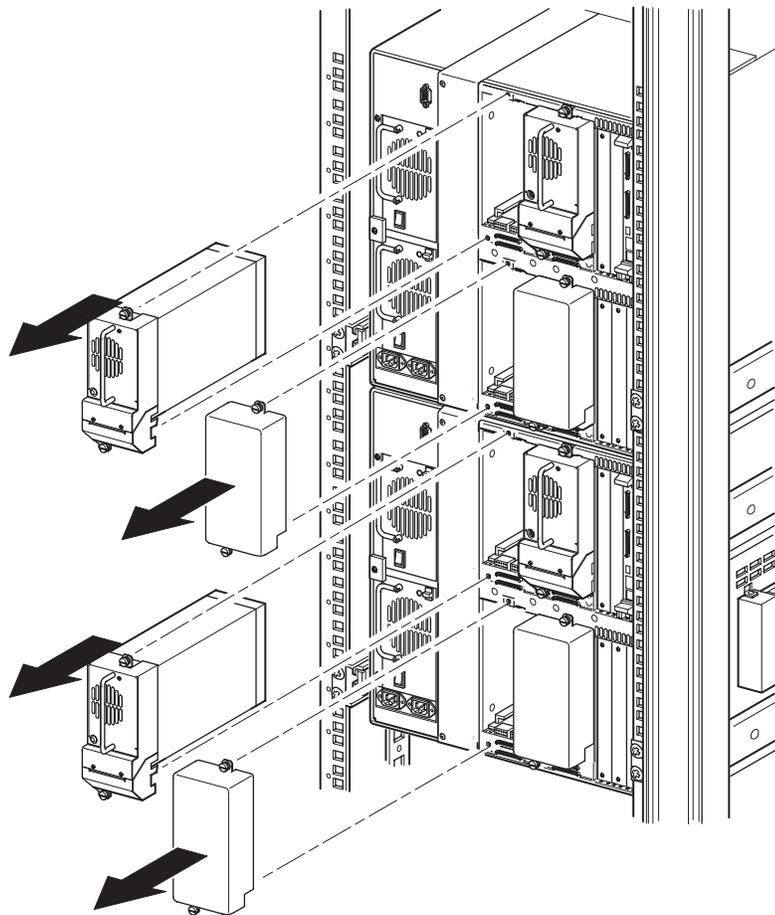

Figure 2-8: Accessing drive bays 1 and 3 (MSL5052)
2. Remove the blank panels or drive shoe assembly 1 and 3 from the bays adjacent to the PTM cover plate openings of each library (see Figure 2-8).